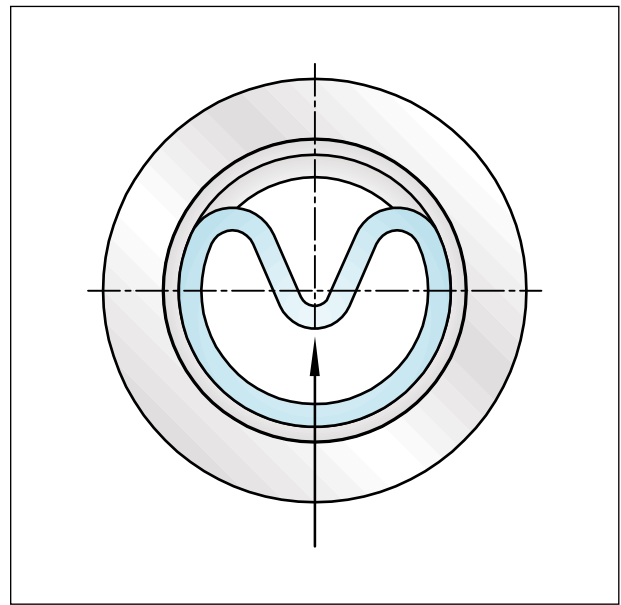

Figure 19 Inserting the seal ring into a closed groove
- After placing the seal into the groove, form it into a ring again by smoothing the ID by hand (see Figure 19).